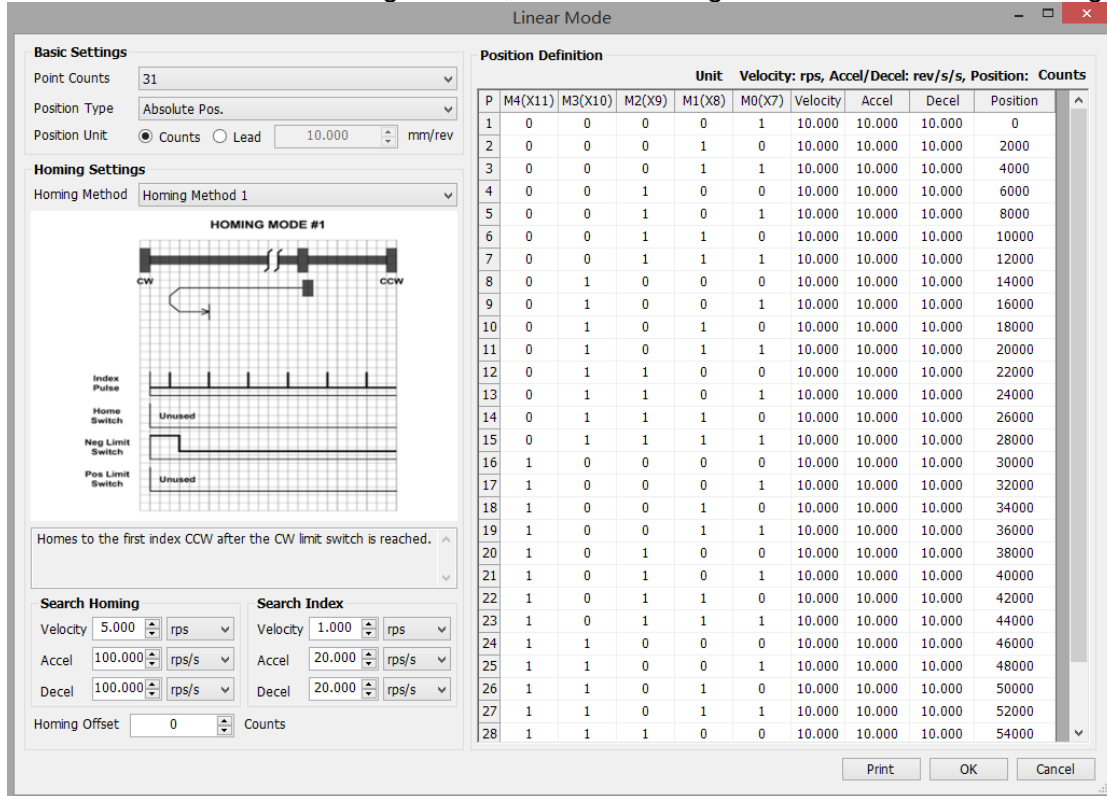

Figure 14.3 Linear motion configuration
4) Click edit for detailed motion configurations, as shown in Figure 14.3 Linear motion configuration.